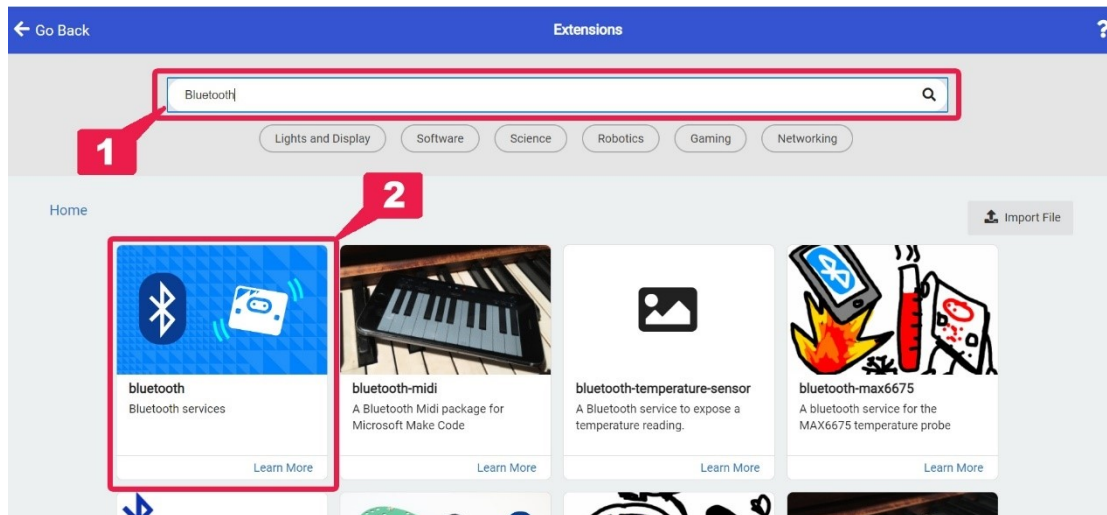

Figure 29: Finding Bluetooth extension
To create projects where micro:bit exchanges data with other Bluetooth devices, you need to use the blocks contained in the Bluetooth command group, offering additional services. This group is not included in the main command groups, and should be imported via the “extensions” group. Therefore, click on the “Extensions”, and type “Bluetooth” in the search bar (1) (Figure 29). Then select the first result returned (2) (Figure 29).